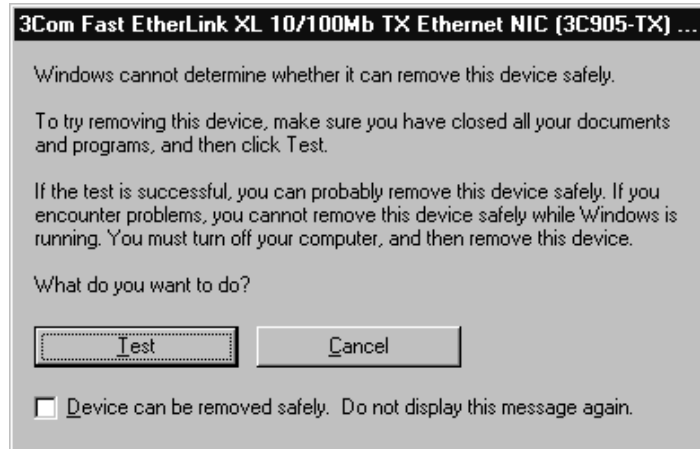

Figure 5-2. NIC Pop-up Window
- 17. If a pop-up window like the one in Figure 5-2 appears, click the check box beside the message `Device can be removed safely` and then click the Test button.**